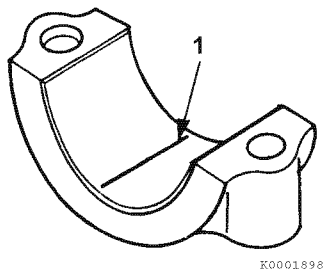

Figure 6-62
- 2- Place a piece of PLASTIGAGE (**Figure 6-62, (1)**) along the full width of each bearing insert.